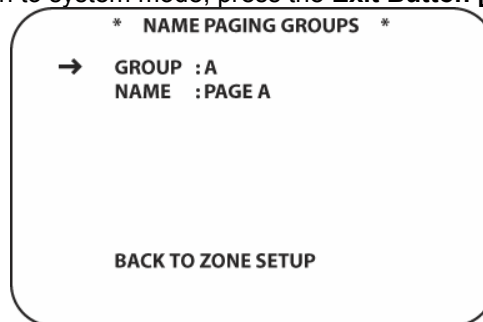

Figure 103 Name Paging Groups Screen
- From **ZONE SETUP PAGE 1**, with the cursor next to **NAME PAGING GROUPS**, press the **Set Button [oval 18]**. The **NAME PAGING GROUPS** screen will appear. (**Figure 103**)